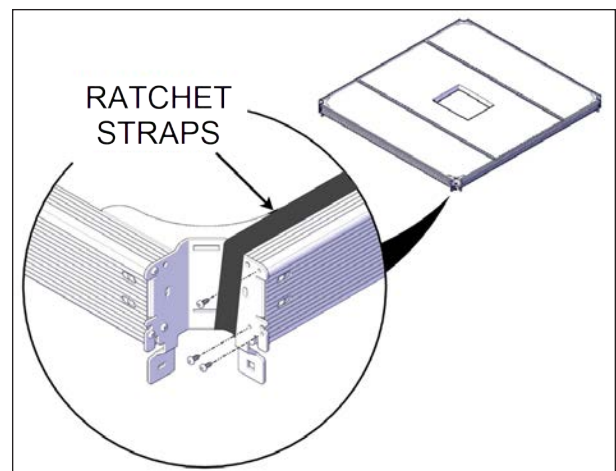

FIGURE 43: FOAM PANEL STRAPPING ON CORNERS
8. Use the 50 ft. (15 m) ratchet straps to properly lock the foam panels in place. It will help you to install the final components of the cover see Figure 43.